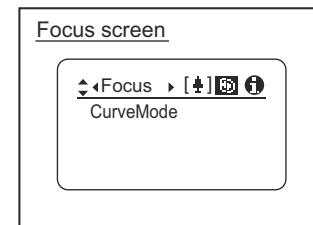

Fig1-8
6. Focus screen *2 (See Fig. 1-8 below)